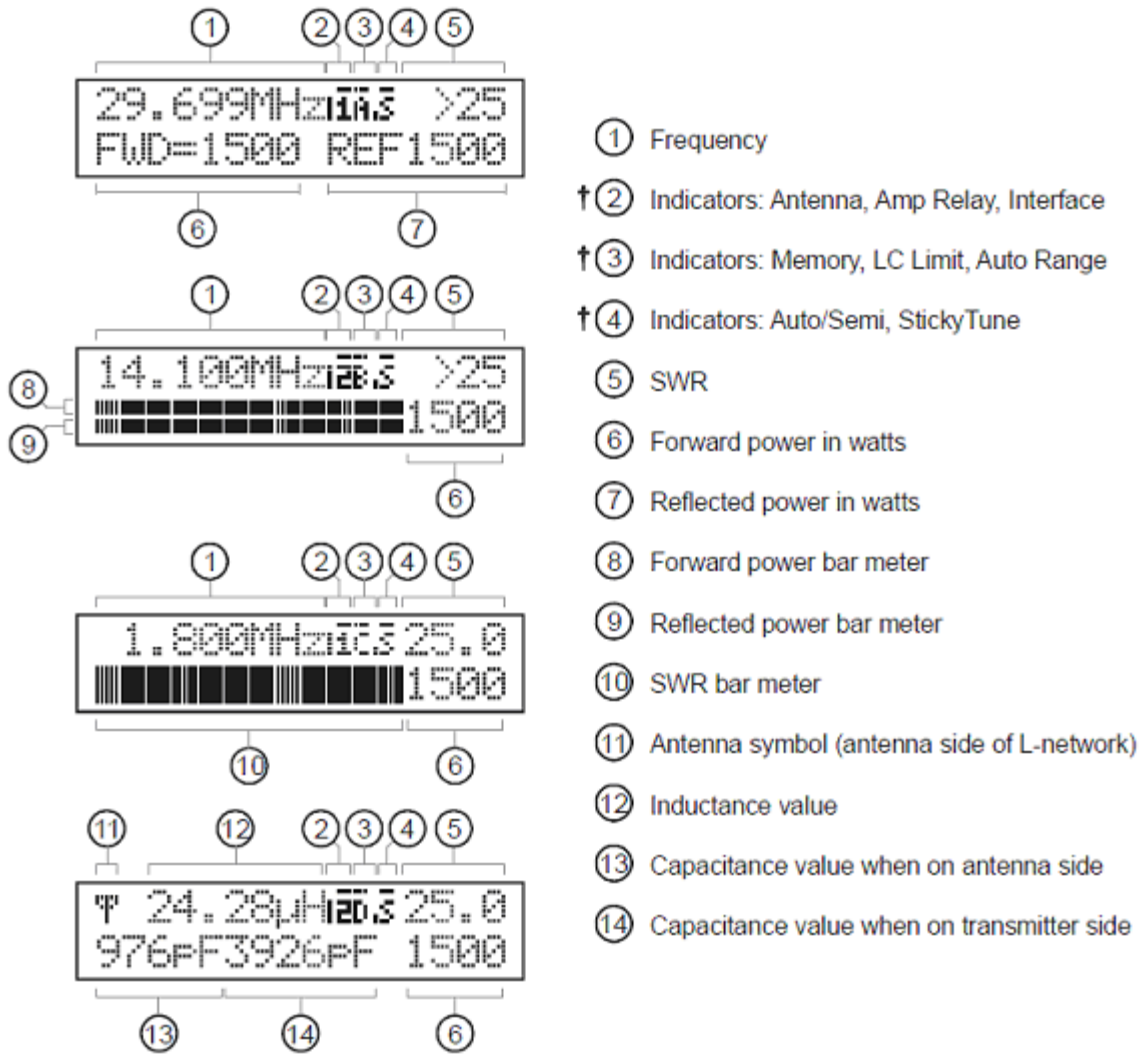
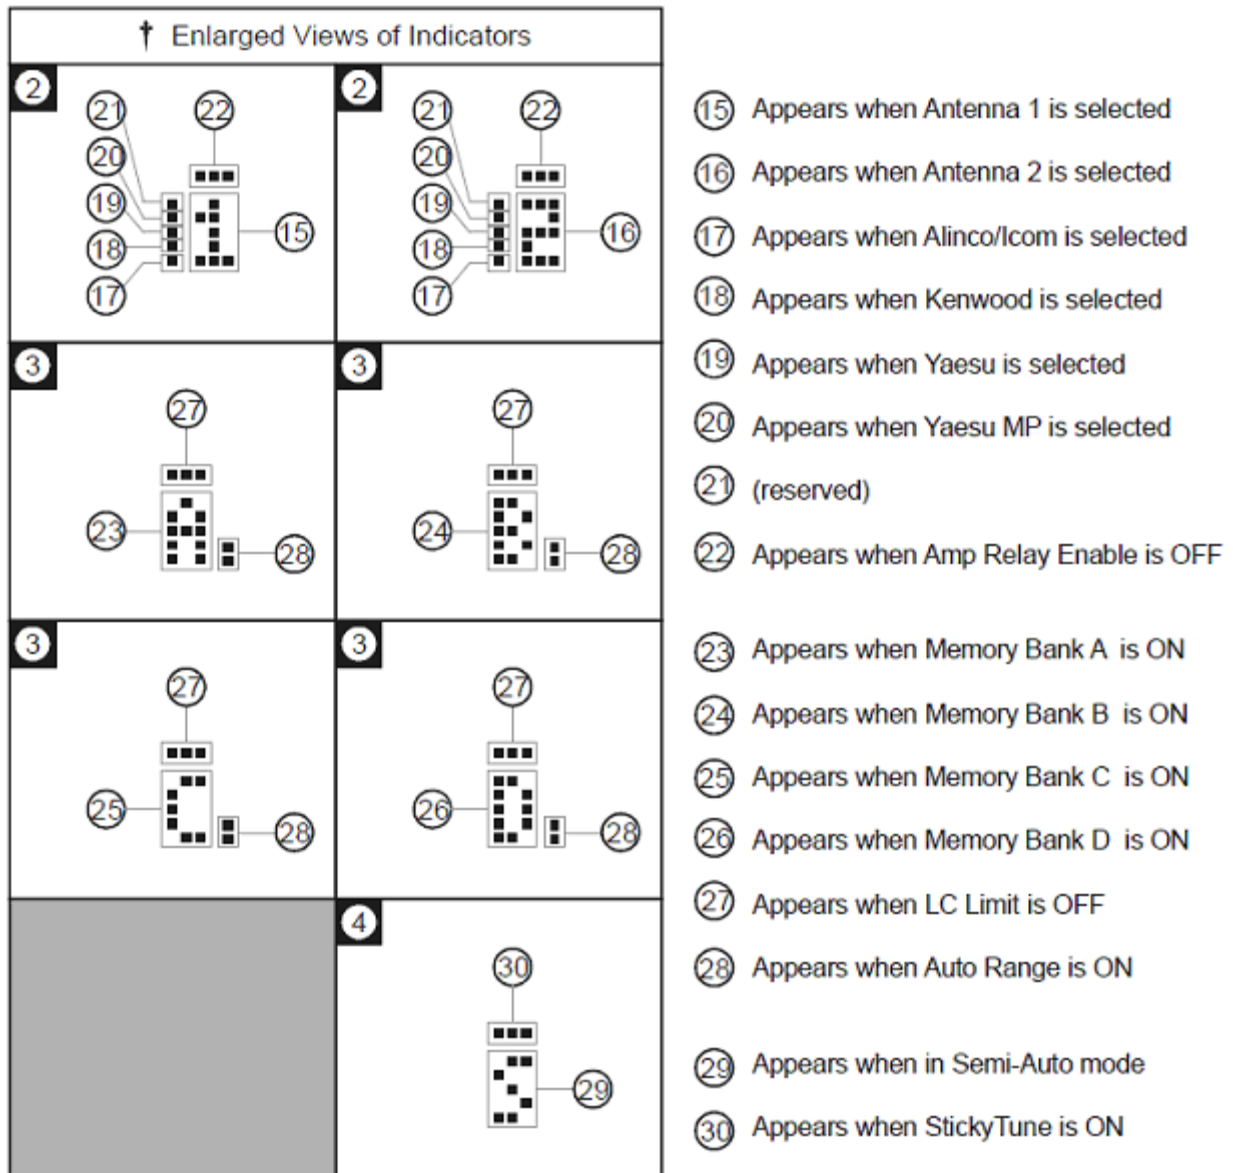

Figure 6 LCD Display
Figure 7 Display Tuner Indicators Enlarged
Press and hold the [MODE] button for two seconds to enter the setup mode (see below). Various tuner indicators are shown on all four main menus: Antenna banks 1/2, IntelliTune™, Radio Interface, Memory, LC Limit, Auto Range, Auto/Semi, and StickyTune™. Refer to Figures 6 and 7 for details on the displayed information.
Various tuner indicators are shown on the main menus to indicate tuner status. Refer to Figures 6 and 7 for locations of these indicators. The number enclosed within () is the item number of Figure 7.
- Antenna Bank: A small “1” appears to indicate antenna bank 1 is selected (15); a small “2” appears to indicate antenna bank 2 is selected (16).
- Radio Interface: One dot appears on the left side of the Antenna indicator to indicate the selected radio interface (17-21). Refer to Figure 7 below. The Radio Interface function is not used in this tuner.
- Amp Relay Enable: When Amp Relay Enable is OFF, a bar appears on top of the Antenna indicator (22). The Amp Relay function is not used in this tuner.
- LC Limit: When LC Limit is OFF, a bar appears on top of the Memory indicator (27).
- Auto Range: When Auto Range is ON, a two-dot vertical bar segment appears on the lower left corner of the Memory indicator (28).
- Auto/Semi: A small “S” appears to indicate semi-automatic mode (29); nothing appears to indicate automatic mode.
- *StickyTune*: When *StickyTune*™ is ON, a bar appears on top of the Auto/Semi indicator (30).
The upper limits of inductance (L) and capacitance (C) are factory-limited according to frequency and maximum power rating; i.e., higher frequencies need less inductance and less capacitance when the L-network is properly tuned. Pressing [C-UP] and/or [L-UP] allows capacitance and inductance to be increased only to these limits. When a selected capacitance or inductance is higher than its allowed limit, and the frequency is changed, that selection is automatically reduced to the value of its limit. These limits are used to prevent matching of extreme load impedance outside the tuner's specification, which may result in excess voltage and/or current across the tuner's components. This setting is not stored in nonvolatile memory and reverts back to the default when the tuner power is cycled. Refer to Figures 6 and 7 for the on-screen LC Limit indicator. If this feature is turned OFF, it will be re-set to ON whenever power is cycled. Default is ON.